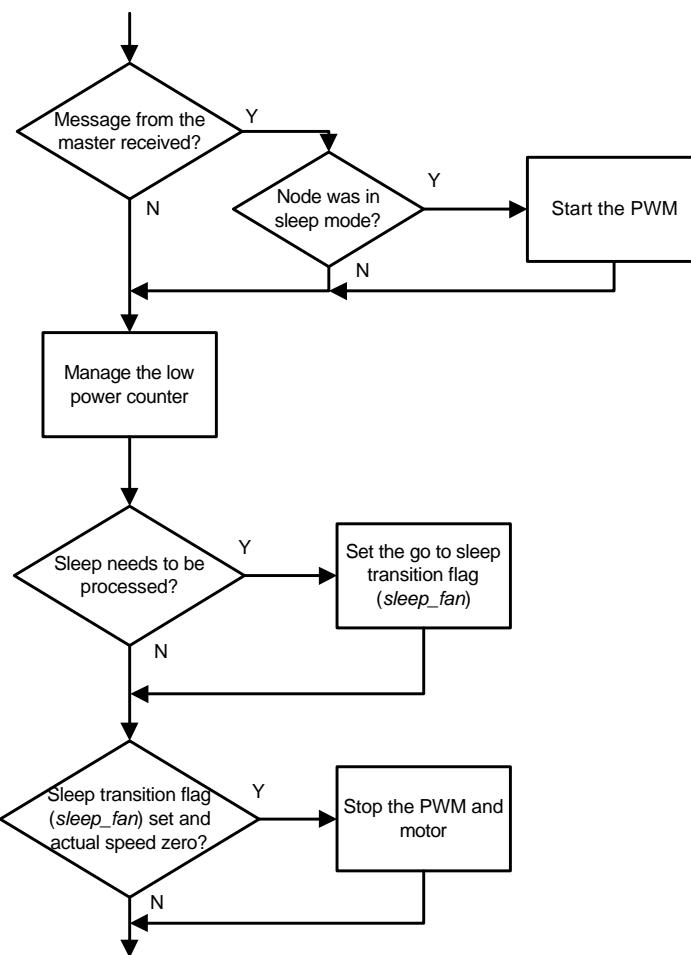

Figure 9. Check the Low Power Mode Section Flow Chart
- **Check the low power mode** — is the final part of the main loop in which the examination of master message correct reception is done. If there is no proper communication with the master node for 4 seconds¹, the go to sleep request flag (*sleep_fan*) is set. The same action is processed if the LIN *goto_sleep* command is received from the master node via the LIN bus. Setting the *sleep_fan* flag disables the BLDC motor phases and the motor starts free wheeling. As soon as the BLDC motor speed falls to zero and the *sleep_fan* is set, PWM generation is disabled and the fan is stopped. The flow chart of this subtask can be found in Figure 9: